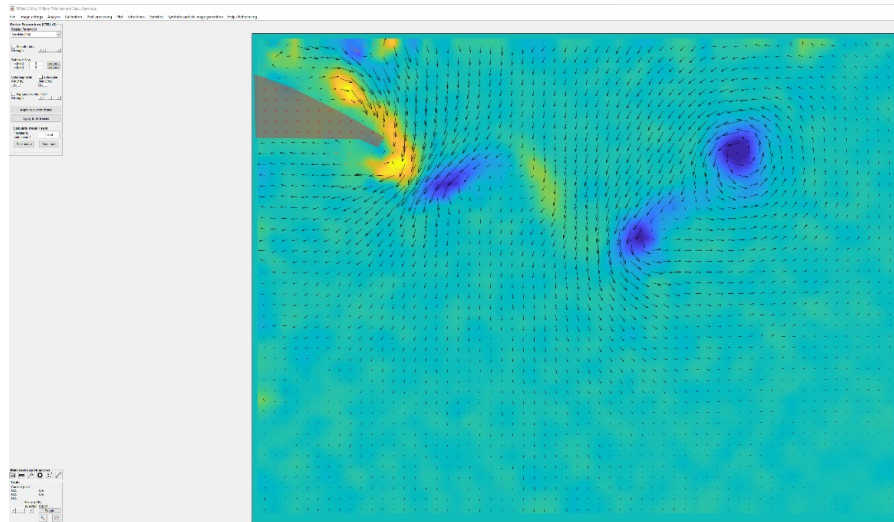

Fig. 7 – Vorticity field
- You may modify the appearance of the vorticity field by unchecking the autoscale option and manually entering the maximum and minimum limits (Fig. 7).